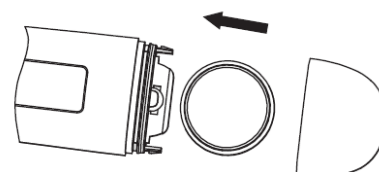

Figure 12
4. Use pointed object such as a pen to remove old battery. Discard battery lawfully. Replace with new 3.0 V DC button type CR2032. Be sure battery is installed with polarity facing up. (See Figure 12)